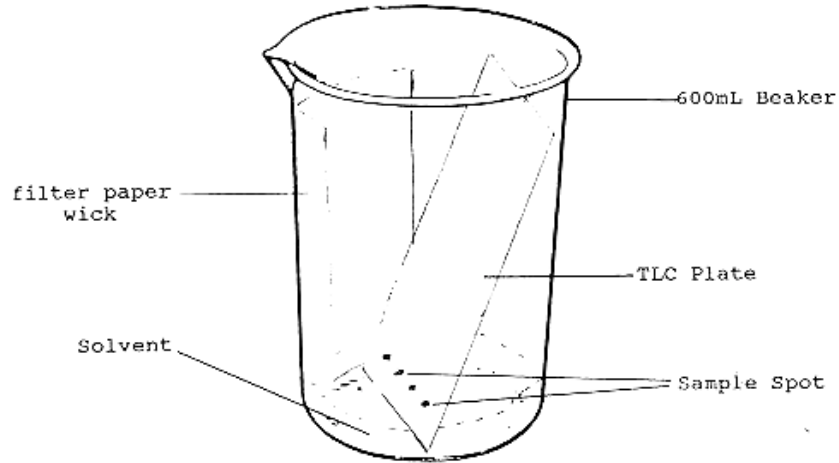

Figure 2
9. Carefully insert your TLC plate into the chromatography chamber. Solvent should not touch the spots. Cover the beaker with foil. See Figure 2.